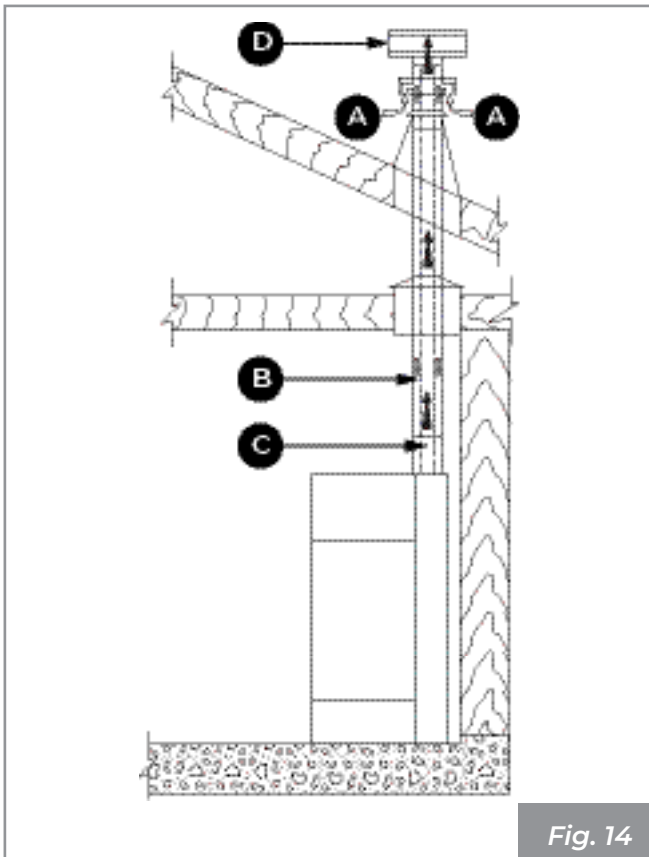
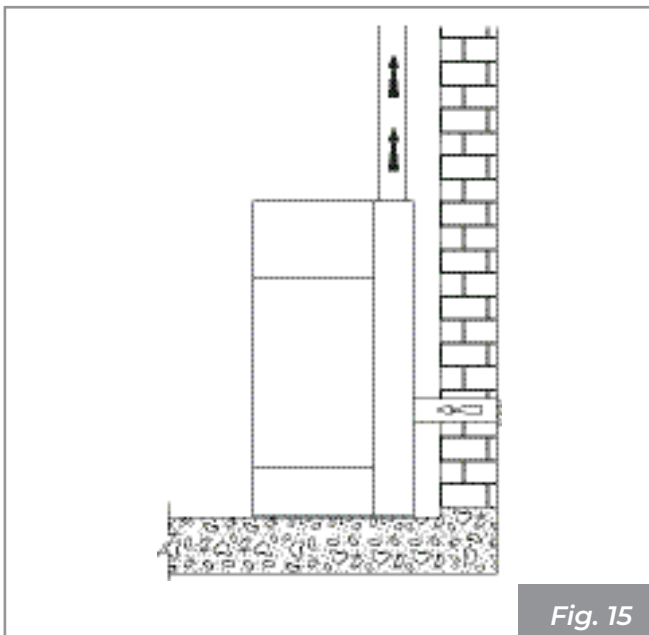

Fig. 14
Fig. 15
- it can come directly from outside with direct connection to the combustion chamber (**Fig. 14 - Fig. 15**).
- to channel the combustion air using a coaxial pipe to expel the flue gases and extract the air (**Fig. 14 - A, B = Air inlet, C, D = Flue gas outlet**); in this case it is not necessary to create a classic air intake in the room.
- to connect the combustion air inlet of the appliance to the air intake using a special pipe (**Fig. 15**).